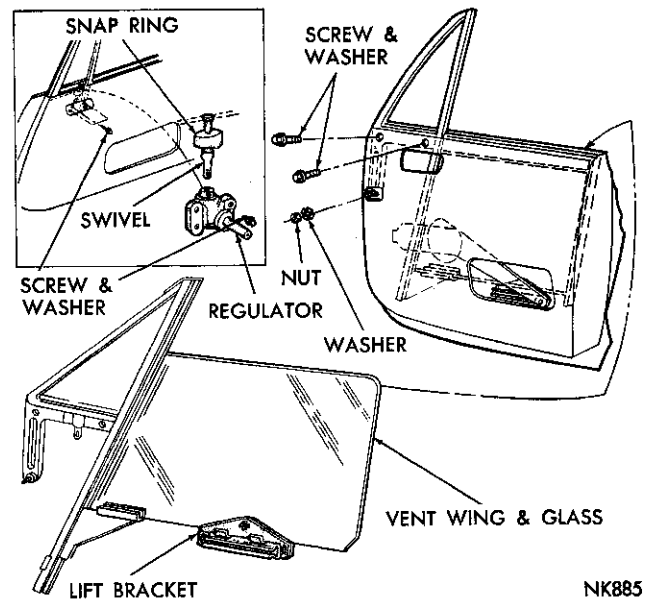

Fig. 75—Vent Wing and Door Glass Attachment
To remove the vent wing glass or weatherstrip after the vent wing has been removed, it is necessary to first remove the vent wing regulator swivel assembly from the vent wing pivot (Fig. 75).
- (1) Lower the window fully and remove the door inside handles, trim panel and watershield.
- (2) Remove the nut and washer from the stud on the lower end of the vent wing leg (Fig. 75).